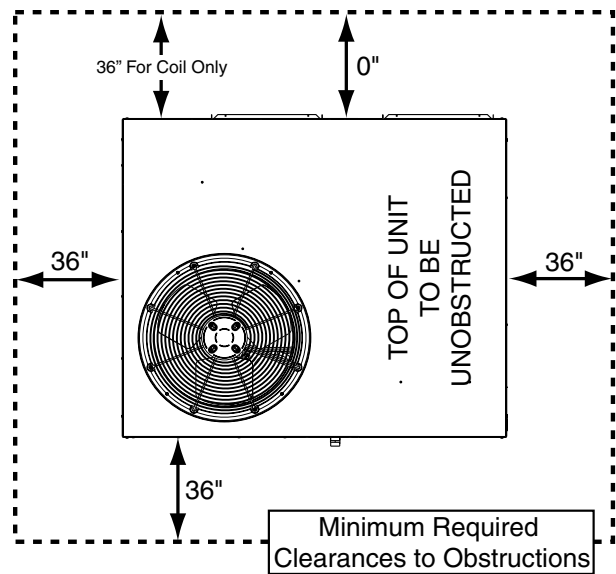

Figure 2. Clearance Requirements
- Sufficient clearance for unobstructed airflow through the outdoor coil must be maintained in order to achieve rated performance. See Figure 2 for minimum clearances to obstructions.
P8SD units are certified as cooling equipment for outdoor installation only. Figure 2 \(page 5\) displays the minimum clearances to obstructions for both Downflow and Horizontal discharge.
- Clearances must be in accordance with those shown in Figure 2.